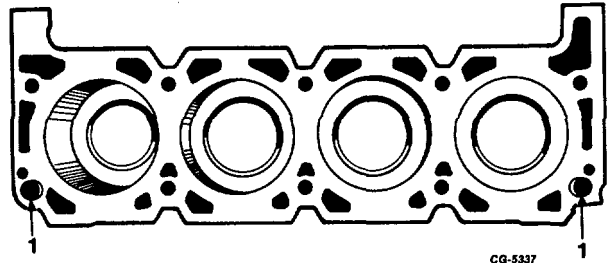

Fig. 44 Dowel Sleeves in Block for Cylinder Head
48. Remove cylinder head bolts and lift cylinder heads off the two locating dowel sleeves, Figure 44. Remove the cylinder head gasket.